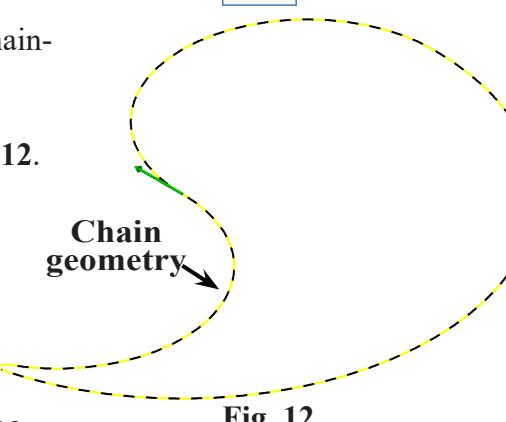

Fig. 12
Step 4. Click **any geometry**, Fig. 12.